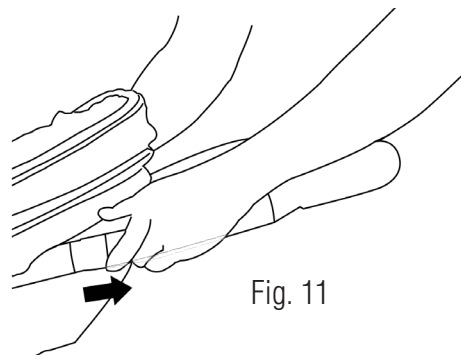

Fig. 11
- The stroller is folded by simultaneously pulling each trigger fold located on right and left handle above the canopy (Fig. 11). When the fold latches are released, the handle will begin to rotate and lower toward the floor.